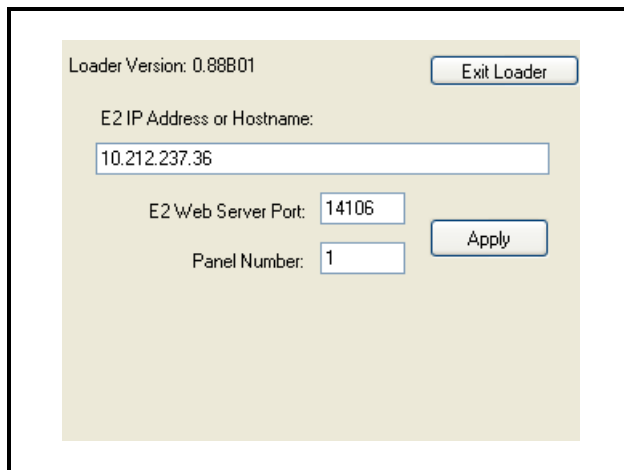

Figure 3-5 - Second Boot Loader/Startup Screen
2. On the second boot loader screen, (**Figure 3-5**) enter the IP Address or Hostname of the E2 that the FSD will be communicating with. (If using a Hostname for E2 instead of an IP Address, contact your IT administrator for the Hostname.)